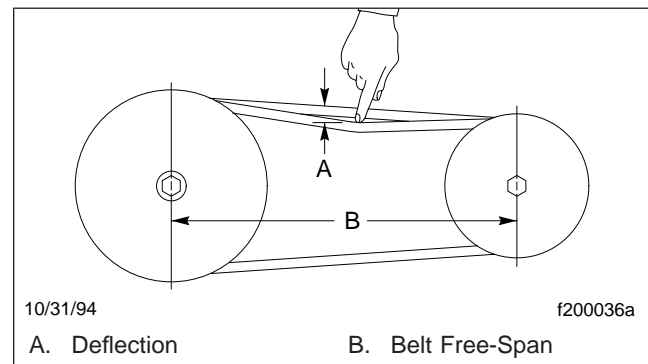

Fig. 12.12, Checking Belt Tension
5. Check the drive belt for proper tension. Use your index finger to apply approximately 25 pounds (11 kg) of force at the center of the belt free-span. See Fig. 12.12. Deflection should be one belt thickness per 1 foot (300 mm) of belt free-span. If the tension is more than or less than this value, measure it with a belt-tension gauge and adjust it to the proper tension. See Group 01 of the *Saf-T-Liner C2 School Bus Workshop Manual* for instructions.